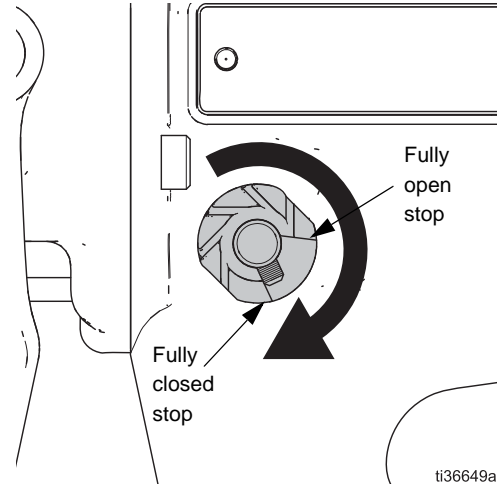

FIG. 2 Shaft Rotated Closed
3. Rotate the shaft stem fully clockwise until the set screw contacts the fully closed stop position as shown in FIG. 2. Keep the shaft stem in this position during the spring tensioning.